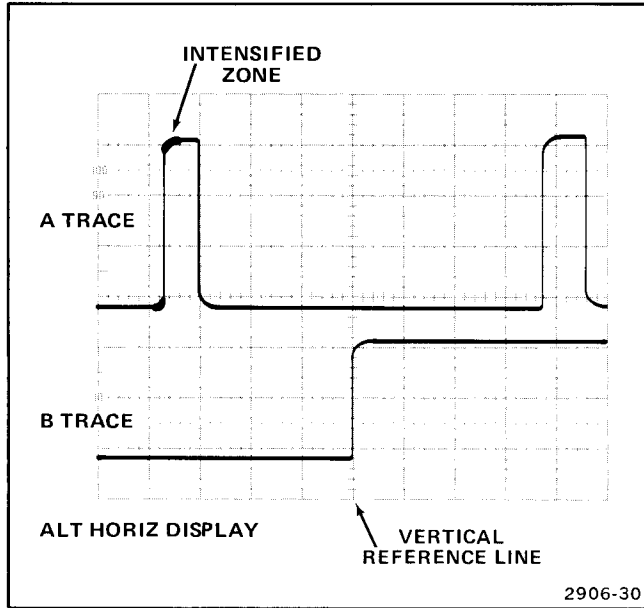

Figure 46. Time difference between repetitive pulses.
7. Observe the B trace display and adjust the DELAY TIME POSITION control to move the rising portion of its pulse to the vertical reference line (see Figure 46).
EXAMPLE: For the pulses illustrated in Figure 46, the first dial setting is 1.31 and the second dial setting is 8.81, with the A TIME/DIV switch set to $0.2 \mu\text{s}$.
5. Rotate the DELAY TIME POSITION control to move the intensified zone to the first pulse (see Figure 46).